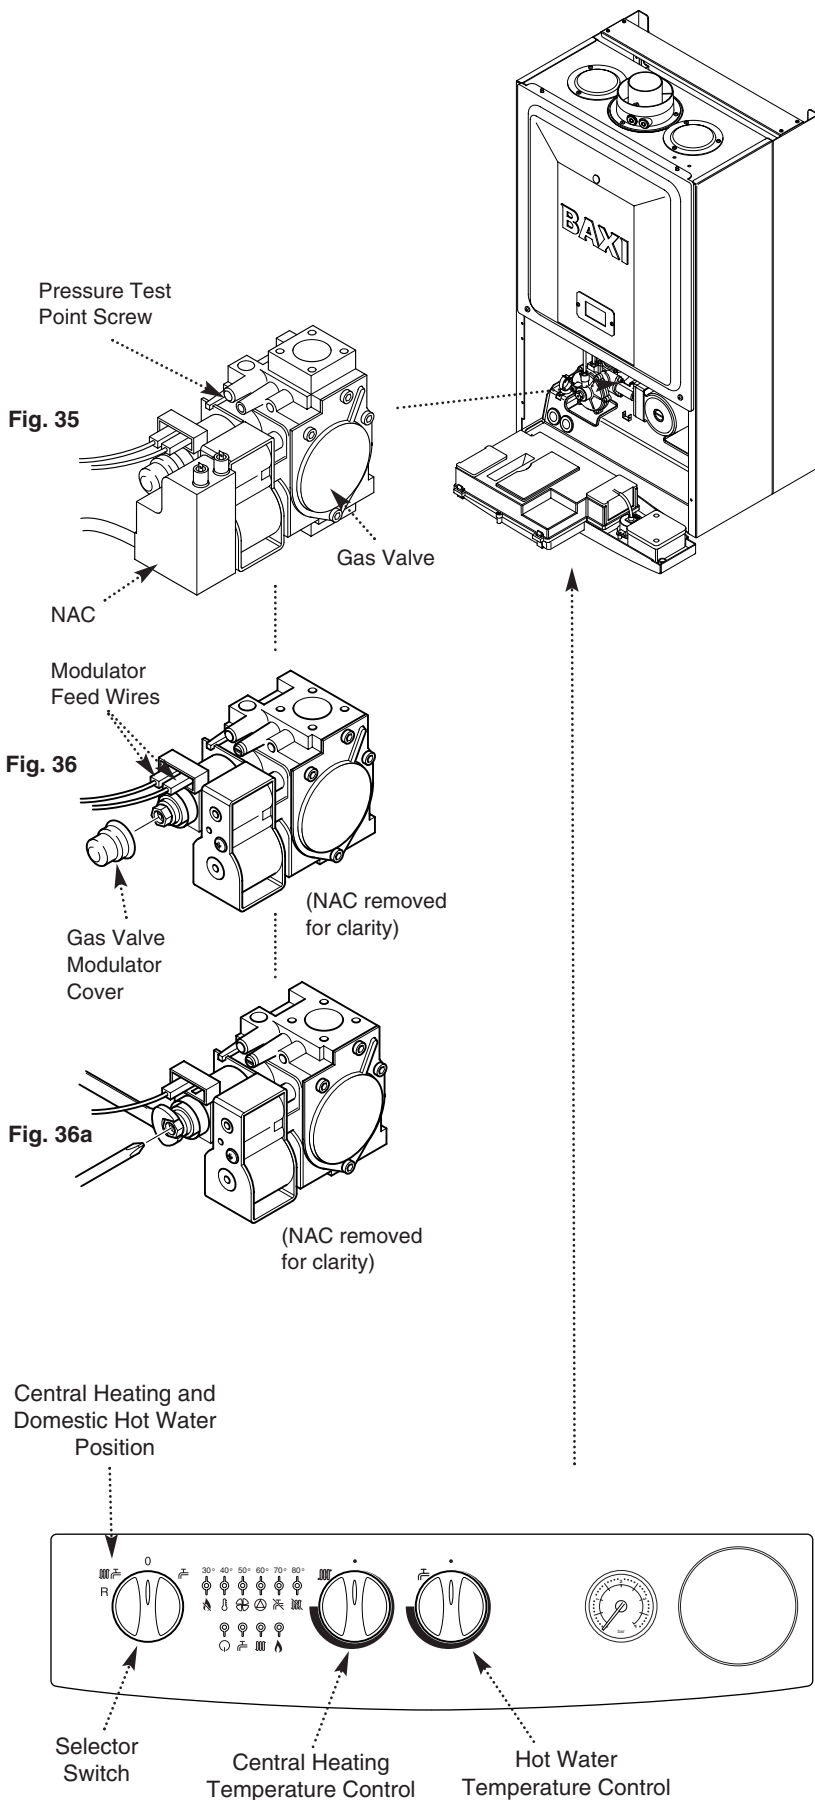

Fig. 37
2. Set the hot water temperature control to maximum and the selector switch to the OFF position (Fig. 37).